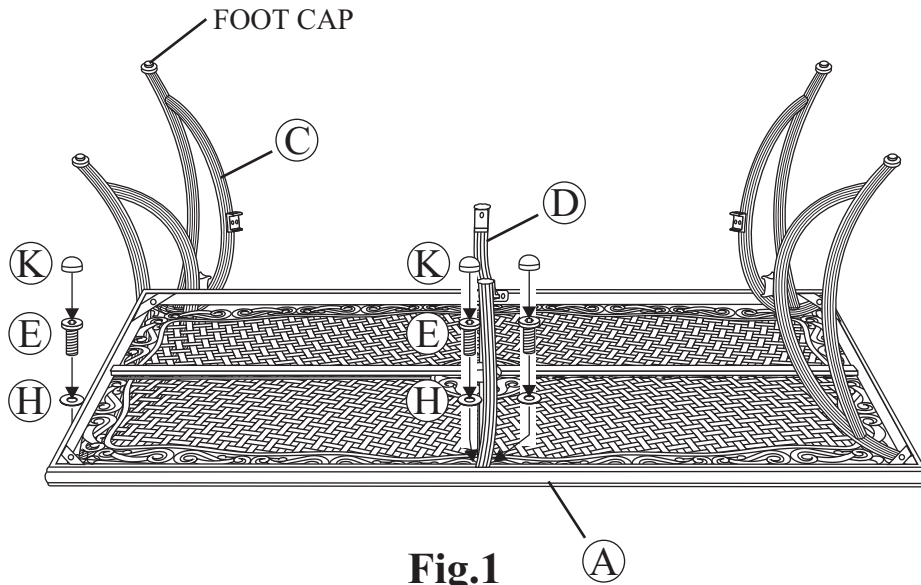

Fig.1
Place the table top upside down on a flat, non-abrasive surface. Attach table leg to table top by using a 1/4"x20 mm bolt and a washer as shown in **Fig.1**. Place the leg beneath the table rim corner bracket. Guide the bolt through the hole in the table rim and into the pre-drilled hole in the table leg. **Hand tighten only**. Repeat for the other three legs. Attach the topside support to the table top by using two 1/4"x20 mm bolts and washers as shown in **Fig.1**. **Hand tighten only**. Repeat for the opposite side.
- 1 Working from behind the chair, have another person stand in front of the chair and position the sling seat frame in between the arms of the seat base as shown in **Fig.1** so that the holes on both sides of the upper portion of the seat frame back align with the fixed nut holes in the seat base.